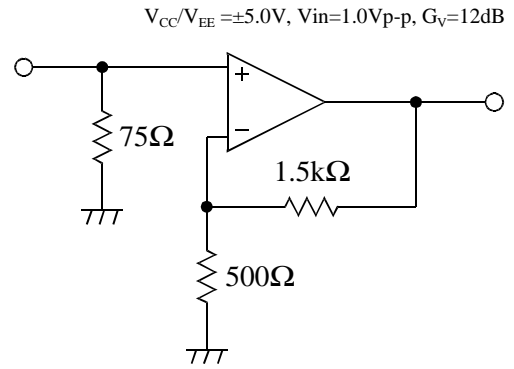

Figure 2: Application example
An example of this application is shown in Figure 2 with the measures explained below.
In Figure 2, if -0.5V (the minimum value of input amplitude) is given to the input, the output voltage will be set to -2.0V. Substitution of  $V_{in}$  and  $V_{out}$  into (4) gives